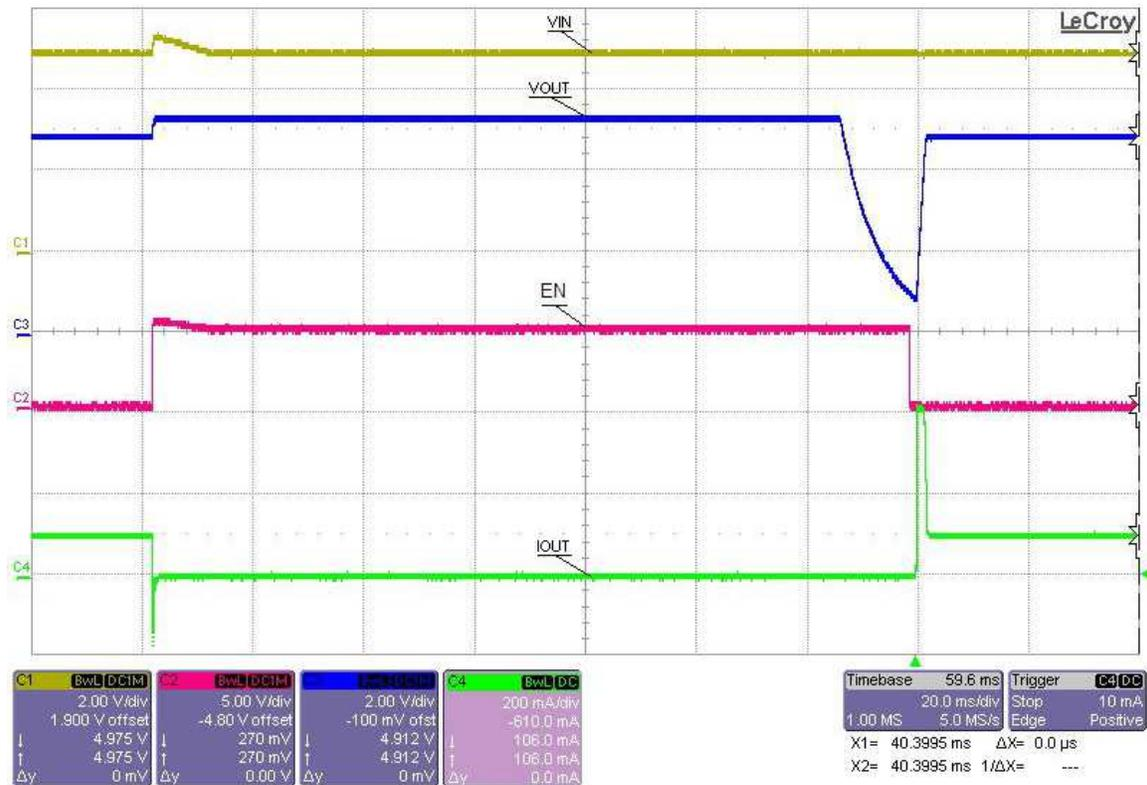

Figure 2. Responding to Reverse Current
Figure 2 shows the circuit responded to a reverse current that reached the threshold. The circuit first senses the reverse current (IOUT) reaching the threshold of 0.090 amps in the reverse direction (-). Once this occurs the enable (EN) gets asserted, and the current turns to zero. The enable remains high and the circuit remains off until the voltage at the output (VOUT) drops below 1.1 volts. When the output voltage drops below 1.1 volts, the enable drops and the circuit is turned back on.